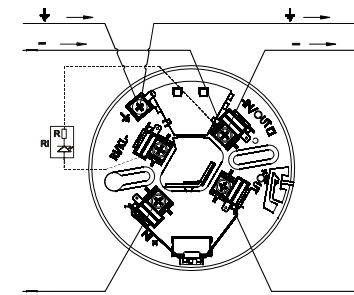

Fig.6
- for Addressable Control Panel (Fig.6)